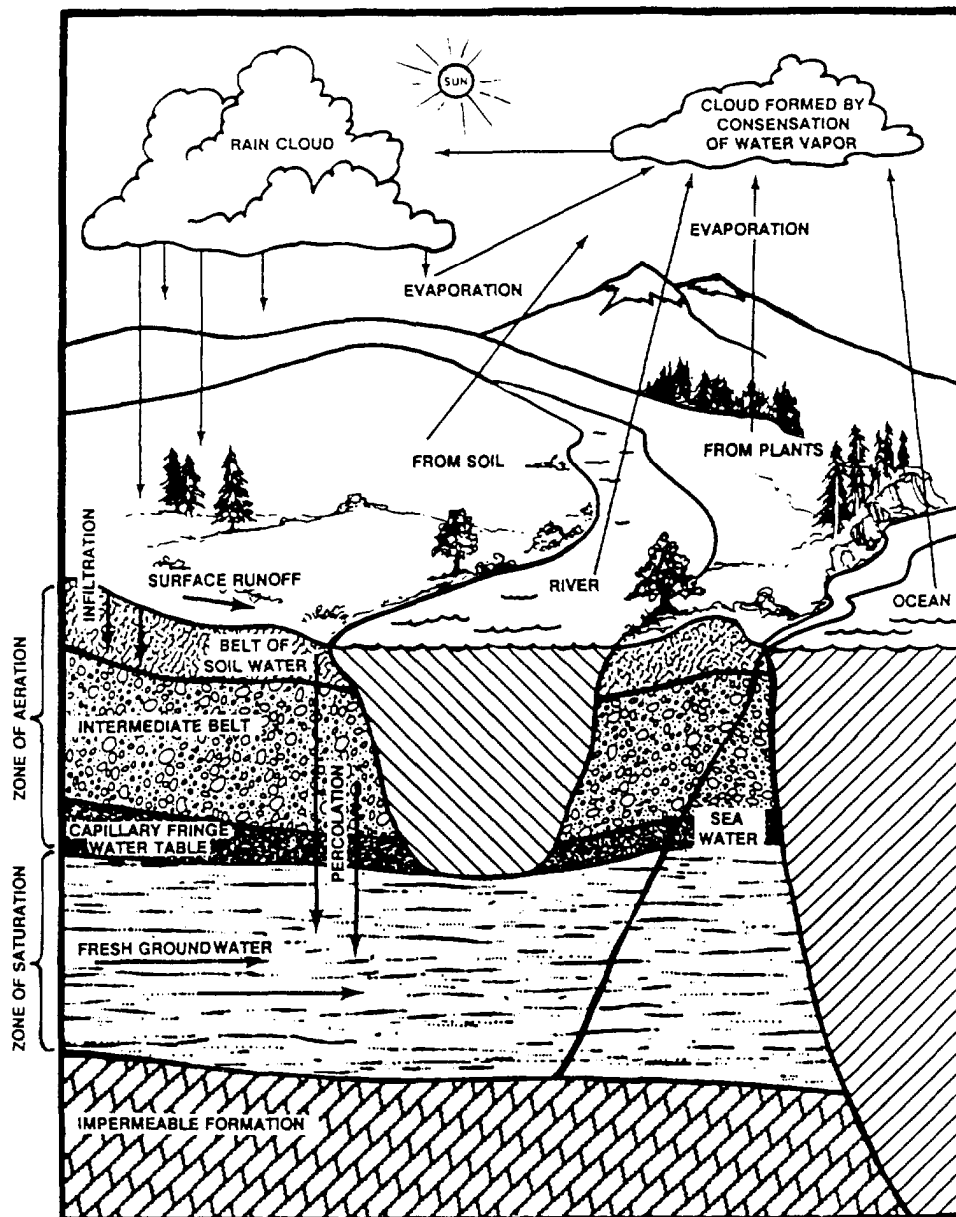

Figure 9-1.-Hydrologic cycle and zone.
Above the *saturated zone* is a zone identified as the *zone of aeration*. This zone is divided into three belts: (1) the belt of soil moisture or plant root zone, (2) the intermediate belt, and (3) the capillary fringe. Neither the intermediate belt nor the capillary fringe is capable of producing water in usable quantities because the pores or open spaces between individual particles are not all filled with water. Water in the *zone of aeration* is called *subsurface water* and should not be confused with *groundwater* contained in the *saturated zone* where all the pores are filled with water (fig. 9-1).